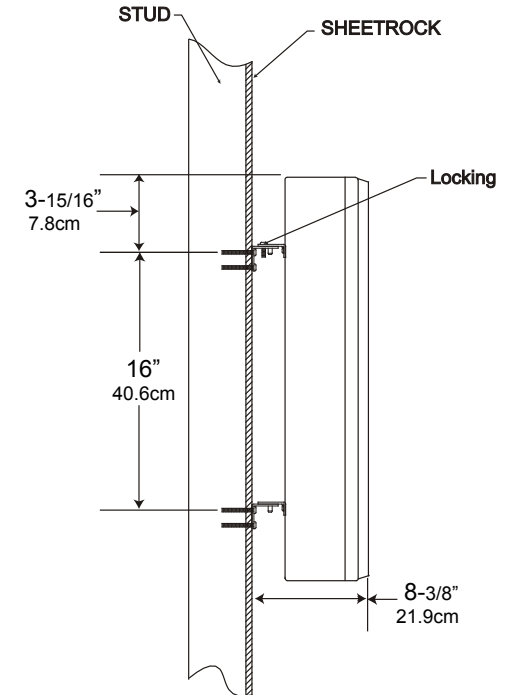

Figure 15
7. Referring to the illustration on the next page, connect the Loudspeaker hookup cables to the LCR80 COM (Negative [-]) Input Terminal and 8 Ω (Positive [+]) Input Terminal. Insert the spade lug connector or prepared section of the cable end into the terminal side access hole, and tighten the terminal cap until the cable is firmly clamped into the terminals so the lugs or wire cannot slip out. Refer to figures 15 and 16.